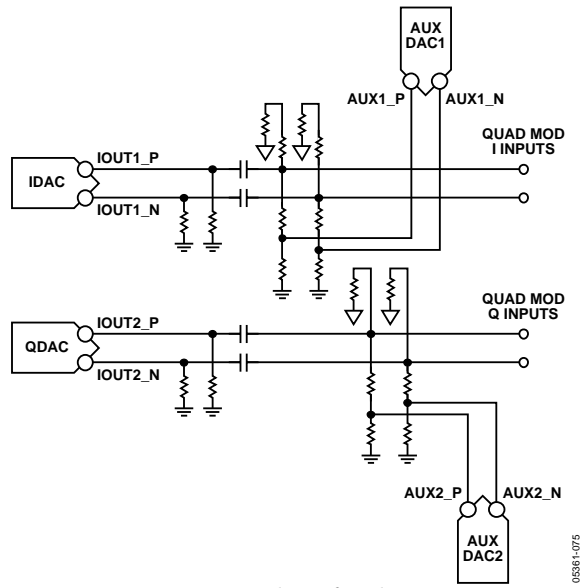

Figure 76. Typical Use of Auxiliary DACs
The auxiliary DACs can be used for local oscillator (LO) cancellation when the DAC output is followed by a quadrature modulator. A typical DAC-to-quadrature modulator interface is shown in Figure 76. Often, the input common-mode voltage for the modulator is much higher than the output compliance range of the DAC, so that ac coupling is necessary. If the required common-mode input voltage on the quadrature modulator matches that of the DAC, then the ac coupling capacitors can be removed. The input referred dc offset voltage of the quadrature modulator (and the DAC output offset voltage mismatch) can result in LO feedthrough on the modulator output, thus degrading system performance. If the configuration of Figure 76 is used, the auxiliary DACs can be used to compensate for this dc offset, thus reducing LO feedthrough. A low-pass or band-pass filter is recommended when spurious signals from the DAC (distortion and DAC images) at the quadrature modulator inputs can affect the system performance. This filter should be placed at the quadrature modulator inputs.